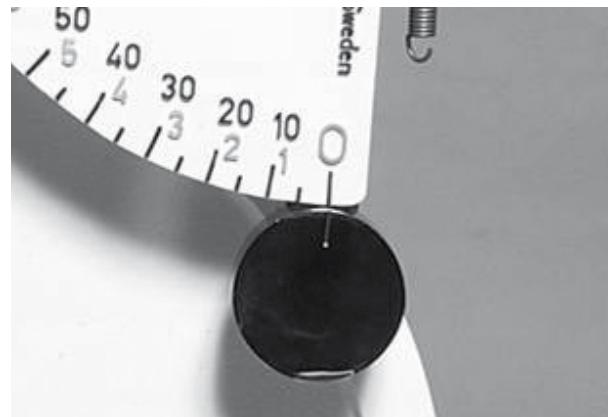

Fig: 0-position
2. Adjust the meter panel, see section "Zero adjustment of meter panel", so that the index line of the pendulum is opposite the 0-index of the scale, see *Fig: 0-position*.
3. Push alt. 5 in the main menu (calibration) and follow the instructions on the display. Hold the pendulum in 0-position and wait for a beep, see *Fig: 0 kp*. NOTE! The pendulum must remain stationary.
4. Move the pendulum to 2 kp and wait for a beep, move the pendulum to 4 kp and wait for a beep. Finally move the pendulum to 6 kp and wait for two beeps shortly after each other. See *Fig: 2 kp*, *Fig: 4 kp*, *Fig: 6 kp* and *Fig: 0 kp*.
5. Follow the instructions shown on the screen. See also *Fig: 2 kp*, *Fig: 4 kp*, *Fig: 6 kp* and *Fig: 0 kp*.
4. Hold the pendulum at 4 kp and turn the power on the bike again and wait for beep. Lower the pendulum to 0, see *Fig: 0 kp*. Wait for a beep.
Fig: 0 kp